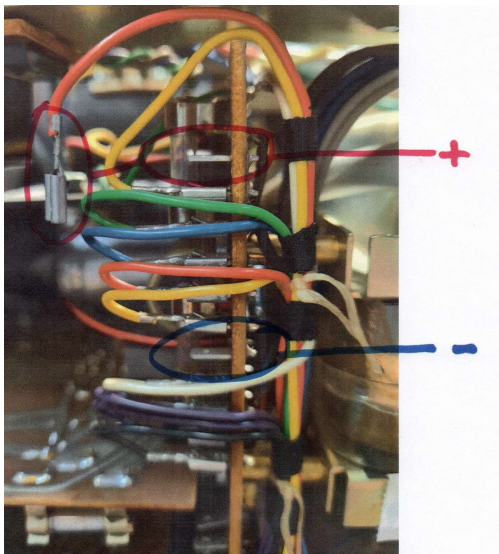

Figure 5
- Disconnect the red cable, terminal 1 (Figure 5) and put it in the insulating sleeve.